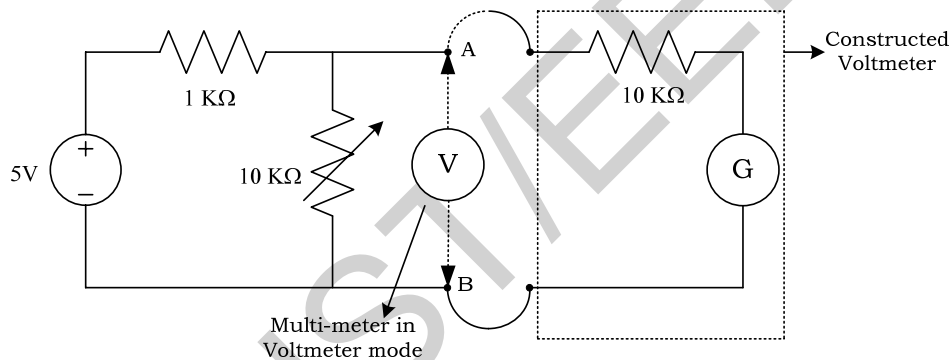

Figure 5.4: Use of galvanometer as voltmeter.
2. Now place the constructed voltmeter in the circuit shown below in Figure 5.4.